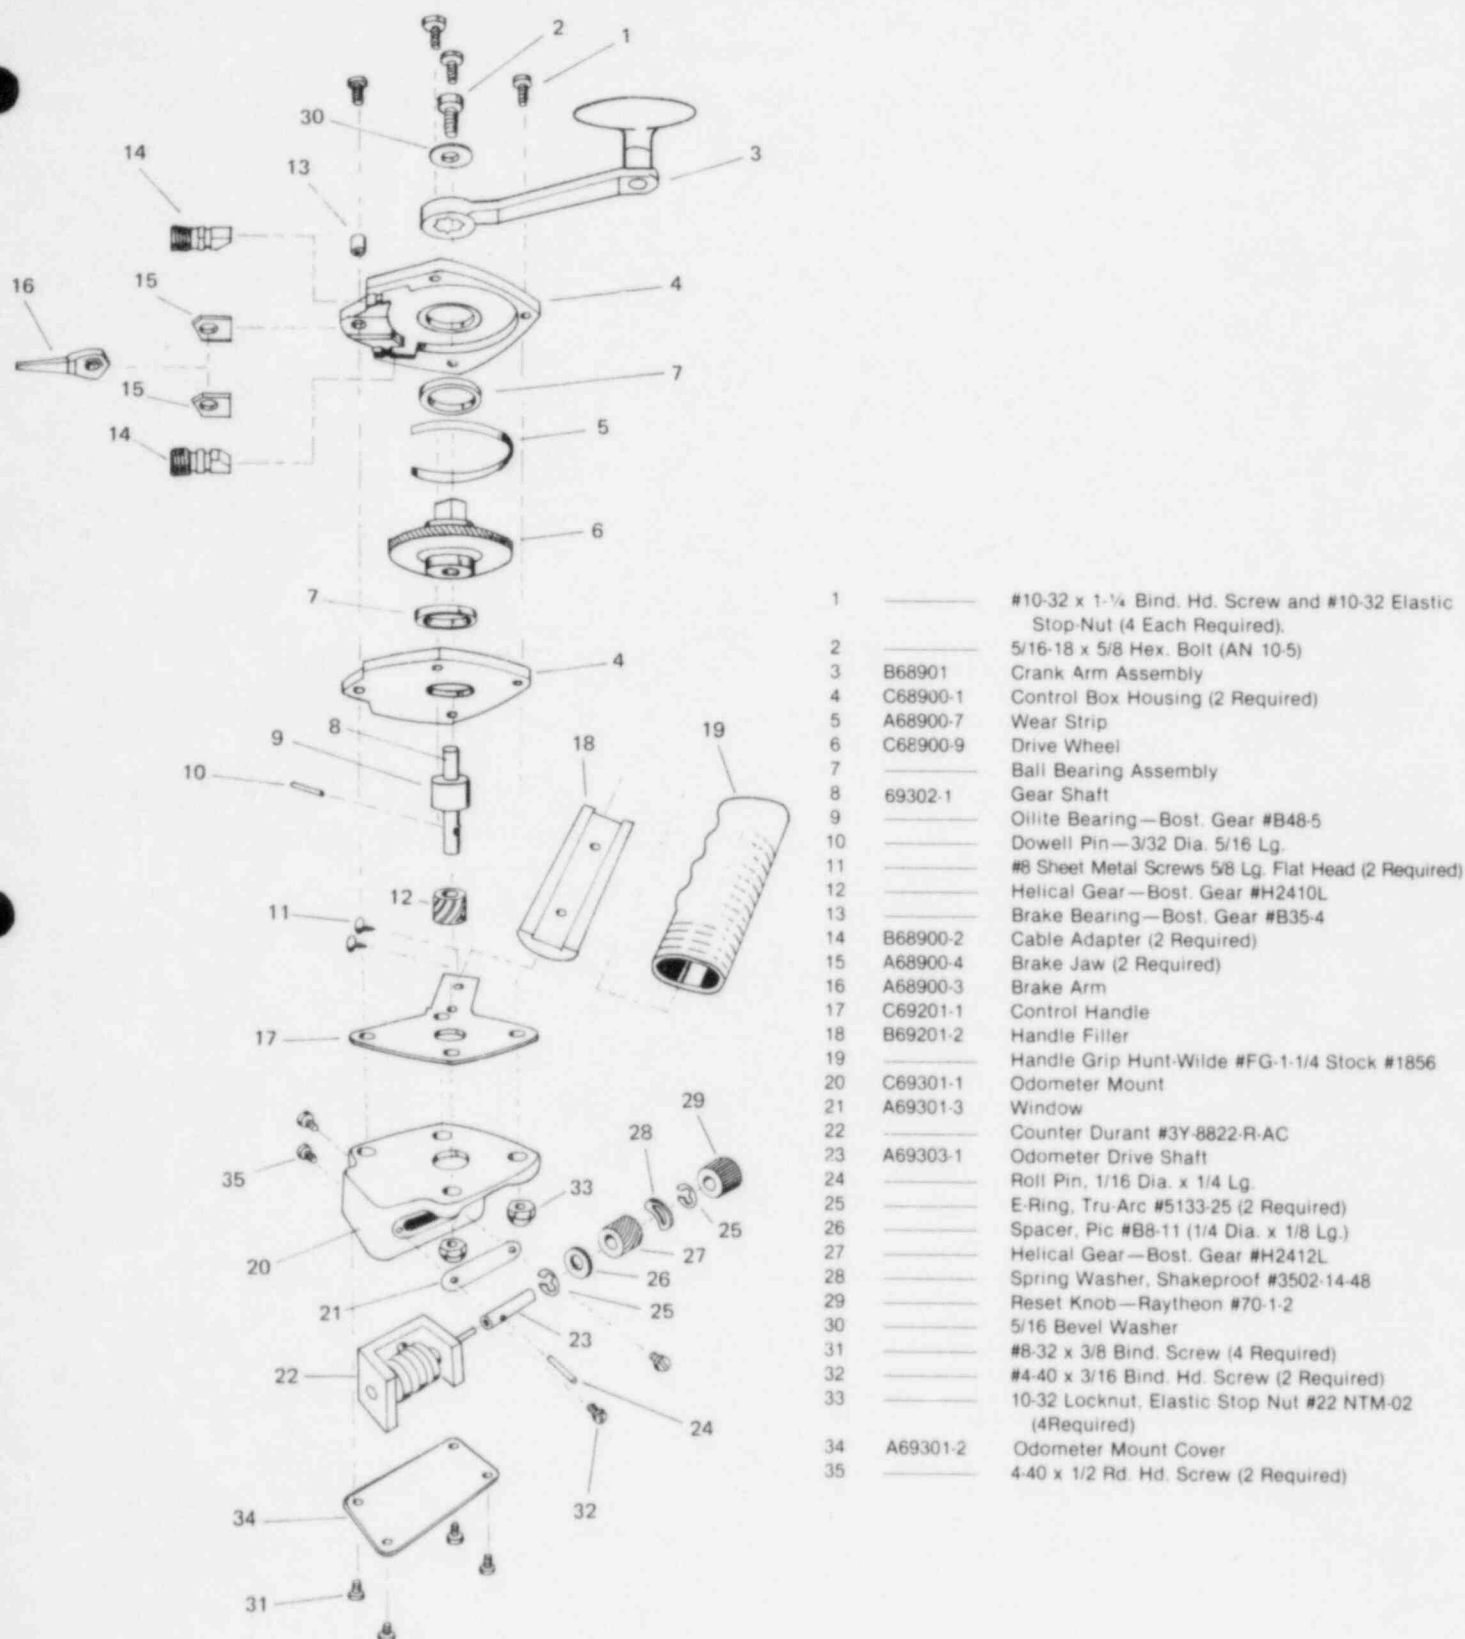

Figure 7.3 Model 693 Control Unit—Exploded View
1. Follow steps 1-5, Disassembly, Model 664 Crank Assembly. Refer to Figure 7.3 for further disassembly and for part identification numbers.
2. Remove the odometer mount cover (34) from the odometer mount (20) and check the odometer unit for proper operation. The unit should turn freely and without excessive play. Clean the helical gear (27) with chlorothene and lightly grease it with TEXACO "Uni-Temp" grease. If the odometer assembly is defective, it must be replaced as a unit.
3. To service the odometer, remove the odometer mount cover (30) from the odometer mount (20), remove the odometer reset knob (29) by unscrewing the two set screws, and unscrew the two attaching large round head screws (35).
5. Resecure the odometer to the odometer mount (20) and secure the odometer reset knob (29) and odometer mount assembly cover (34) in place.
6. Secure the control box to the control handle (17) and odometer mount (20) with the four large binder head screws and  $\frac{3}{8}$ " nuts, and secure the crank arm assembly (3) to the shaft with the  $\frac{5}{16}$ " bevel washer and  $\frac{5}{16}$ " hex head bolt. Follow step 12 of the previous section for checking of operation.